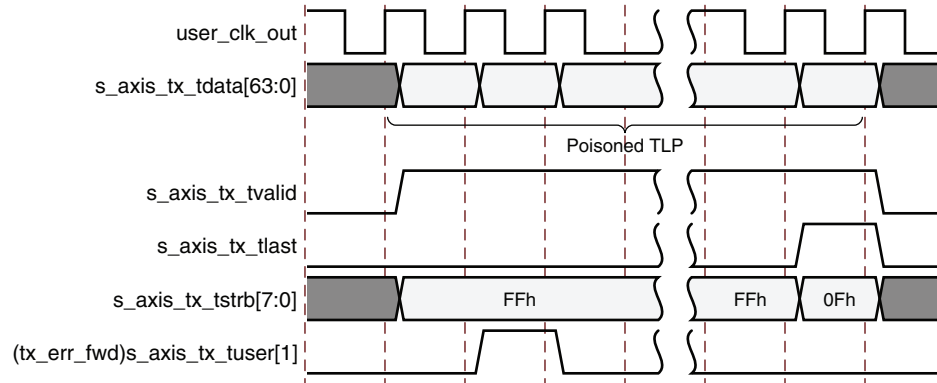

Figure 3-12: Packet Data Poisoning on the Transmit Interface
- Assert (tx_err_fwd) s_axis_tx_tuser[1] for at least one valid data transfer cycle any time during the packet transmission, as shown in Figure 3-12. This causes the core to set EP = 1 in the TLP header when it transmits the packet onto the PCI Express fabric. This mechanism can be used if the User Application does not know whether a packet could be poisoned at the start of packet transmission. Use of terr_fwd is not supported for packets when (tx_str) s_axis_tx_tuser[2] is asserted (streamed transmit packets). In streaming mode, users can optionally discontinue the packet if it becomes corrupted. See Discontinuing Transmission of Transaction by Source, page 56 for details on discontinuing packets.